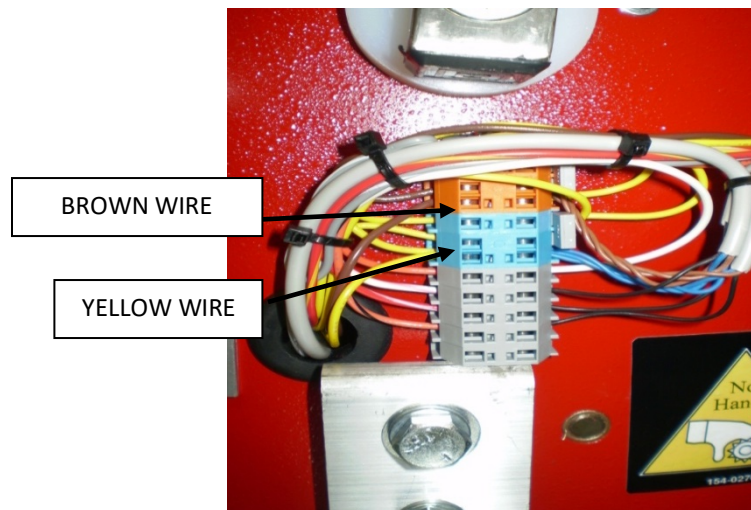

FIGURE 4
11. With a small straight blade screwdriver, install the stripped portion of yellow wire into the bottom blue wago block on the left side of the wago assy. Install the stripped portion of the brown wire into the bottom orange wago on the left side of the wago assy. Lightly pull on both wires to make sure they are properly secured. Shown in Figure 4.